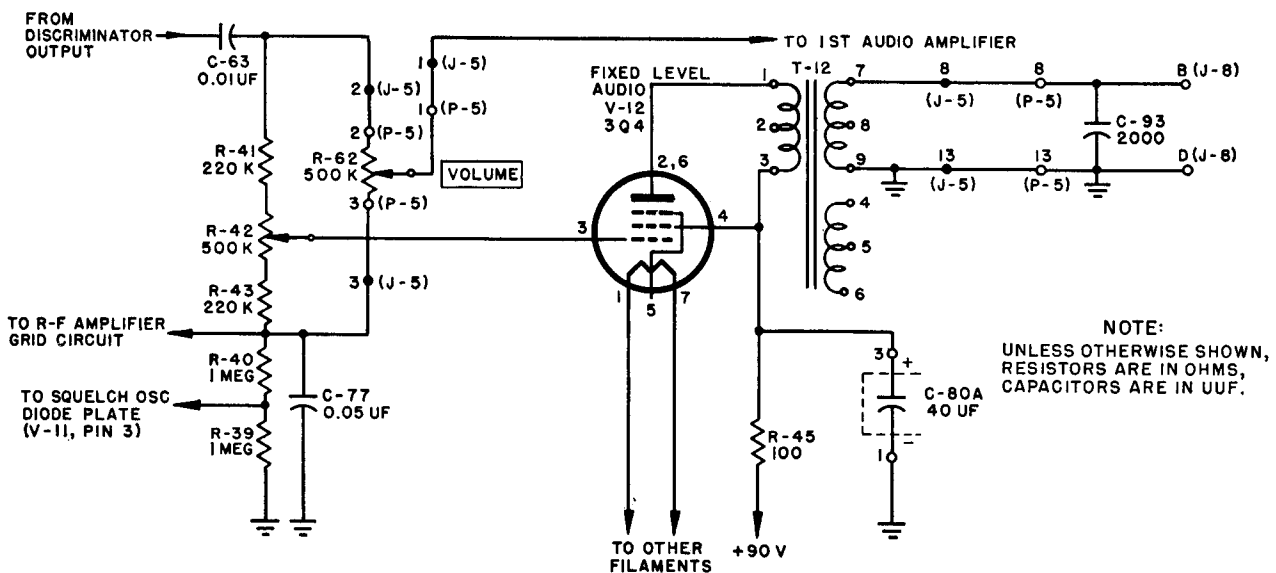

Figure 18. Fixed level audio amplifier circuit, functional diagram.
27. Fixed Level Audio Amplifier V-12 (fig. 18)
a. The fixed level audio amplifier, V-12, uses a type 3Q4 pentode tube in a Class A audio amplifier circuit. Audio signals developed across the output of the discriminator circuit are routed through low-pass filter R-36 and C-81 (fig. 15) and through coupling capacitor C-63 (fig. 18) to level adjustment control R-42, the movable arm of which is connected to the grid (pin 3) of V-12. This control is an internal adjustment. It is factory adjusted and should not be touched unless the output of V-12 does not meet the requirements of paragraph 5. The grid circuit of V-12 includes potentiometer R-42, in series with resistors R-41, R-43 and squelch diode resistors R-40 and R-39. R-39 also acts as the load resistor for the squelch diode rectifier in the squelch oscillator circuit (par. 28). Under no-signal conditions the rectifier diode of V-11 applies a voltage across R-39, the magnitude and polarity of which are such as to cut off plate current in the fixed level audio